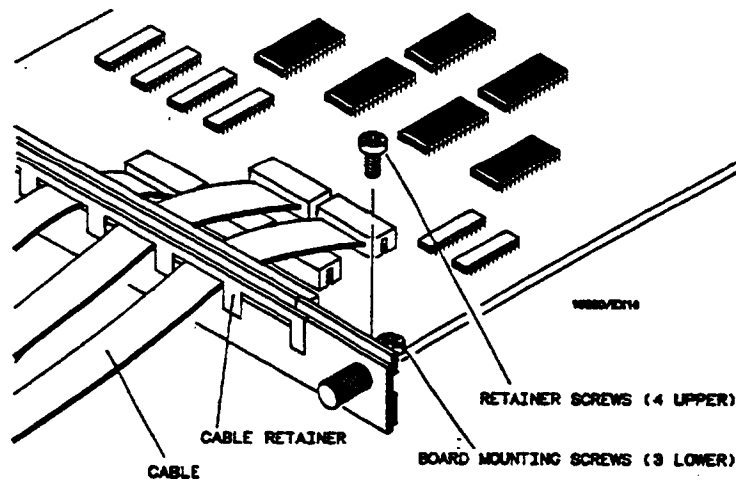

Figure 6-18. Retainer And Screws
- f. Using a No. 10 torx  $\oplus$  driver, remove four screws that hold cable retainer onto card. See figure 6-18.